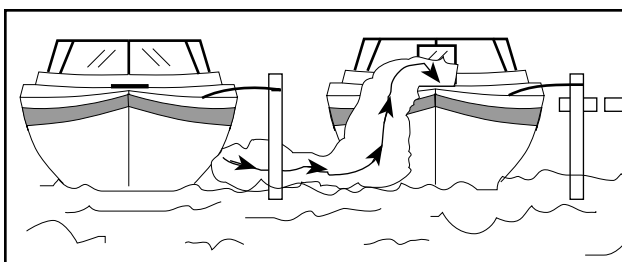

FIGURE 2.7 VESSEL ALONGSIDE
**Generator or hull exhaust from other vessels while either docked or anchored can emit poisonous carbon monoxide gas and cause excessive accumulation within the cabin and cockpit areas of your boat. See Figure 2.7. Be alert for generator exhaust from other vessels alongside your boat.**